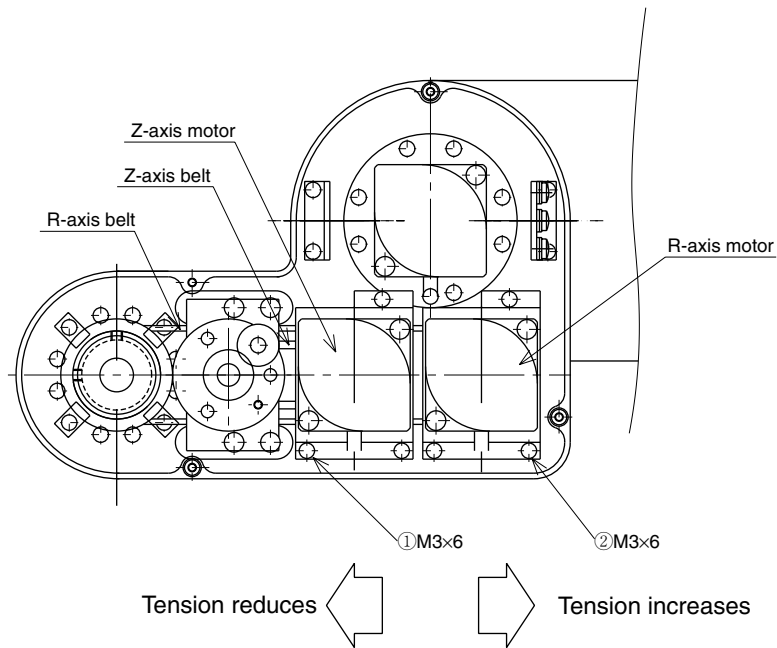

Fig. 4-18 R6YXH250, R6YXH350, R6YXH400
1. Loosen the bolt 1 shown in Fig. 4-18.
- 1. Loosen the bolt 2 shown in Fig. 4-18.